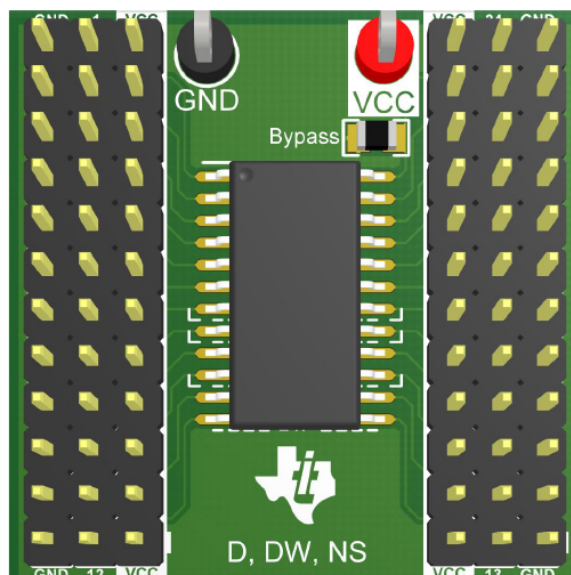

Figure 3. Fully Populated Section
4. Interface with device pins. The kit includes six 12-pin headers which will allow the user to fully populate a single section. An example of this, with the addition of test points and a bypass capacitor for the supply, can be seen in Figure 3.